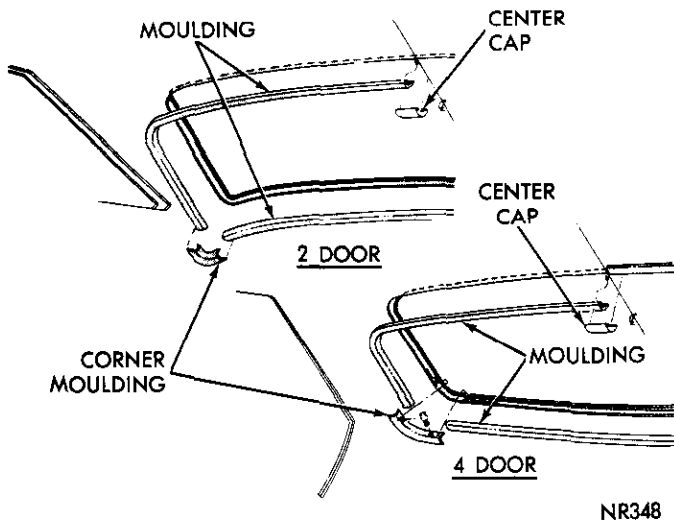
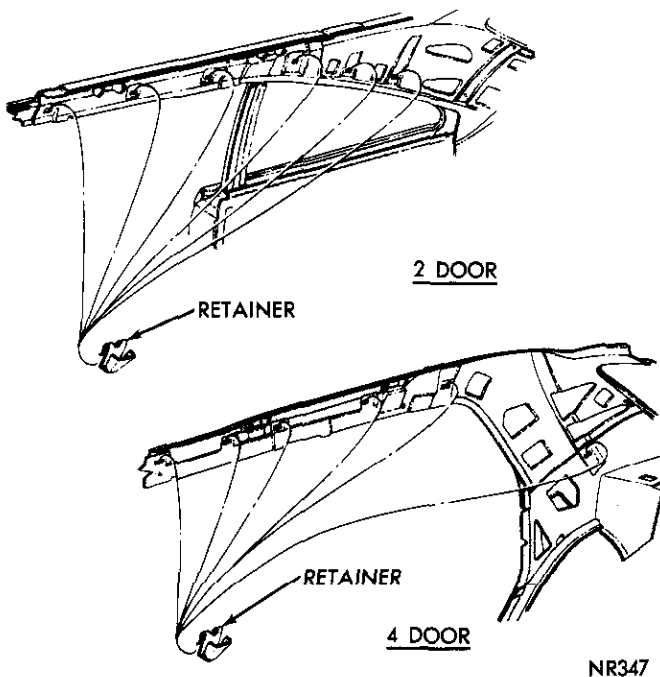

Fig. 3—Rear Window Trim Mouldings—Coronet
Fig. 4—Listing Wire Retainers
(2) Remove rear window trim moulding (Fig. 3).
(3) Remove headlining from cemented areas at windshield header and rear window opening.
(4) Remove headlining from under shelf panel and from quarter panels.
(5) Using a dull bladed putty knife, disengage fabric from the side rail retainers (Fig. 4) by gently forcing material up and off of retainers with the putty knife and while maintaining pressure on fabric, pull disengaged portion down and out. Work only small areas at a time.